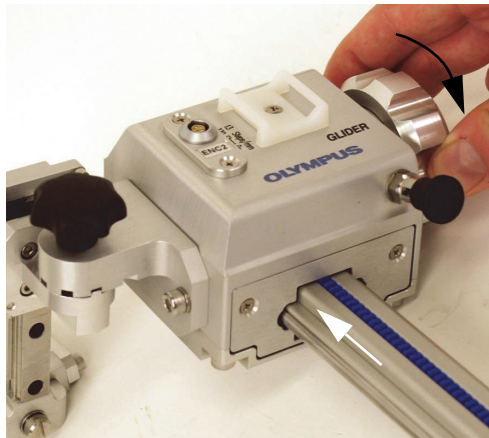

Figure 2-35 Turning the increment knob to move axis into the module
3. Turn the increment knob to move the axis into the module (see Figure 2-35 on page 50).